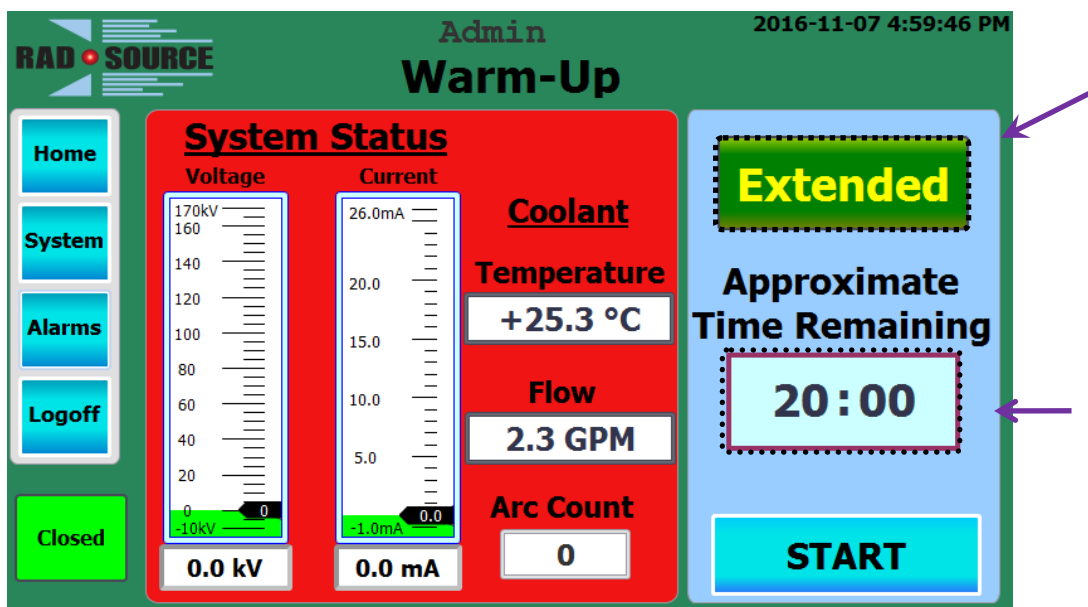

Figure 33: Extended Warm-Up (*For RS-2000 Pro 225, Max kV = 225 & Max mA = 17.7)
3. The top-right button of the Warm-Up screen shows the current mode. In Extended Warm-Up, "Extended" replaces "Normal" and a longer Approximate Time Remaining is shown. If the machine has been inactive for more than a week, Extended Warm-Up is recommended. If you wish to toggle between the two modes, press the *Normal / Extended* button. (See Fig. 33 and 34.)